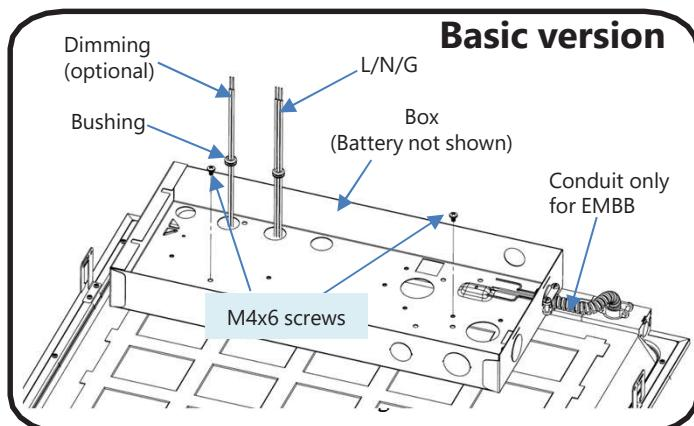

Fig 9
**For Basic version**, insert bushing into holes, and keep wires go through them. See Fig 9.